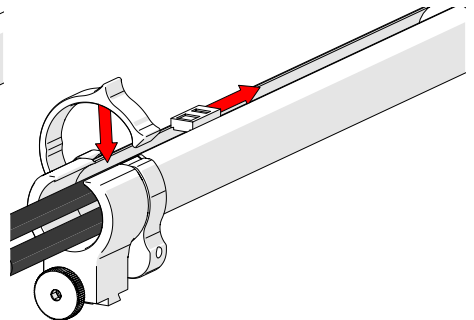

Fig. 73 - Zip to close
2. Close the clamp and zip the tube closed (Fig. 73).